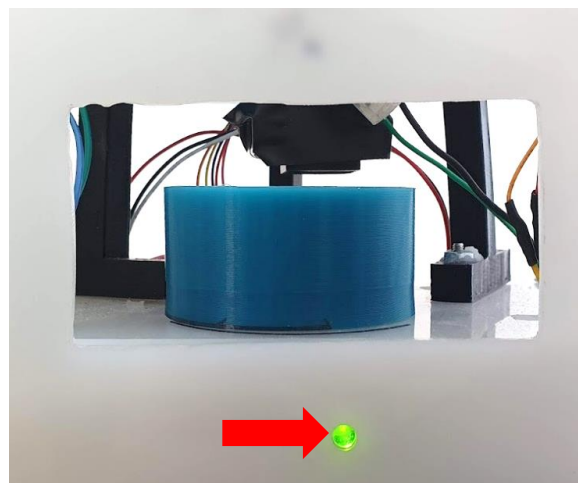

Figure 21- Green LED Indicator
- A green LED will light up below the pickup output (Figure 21).